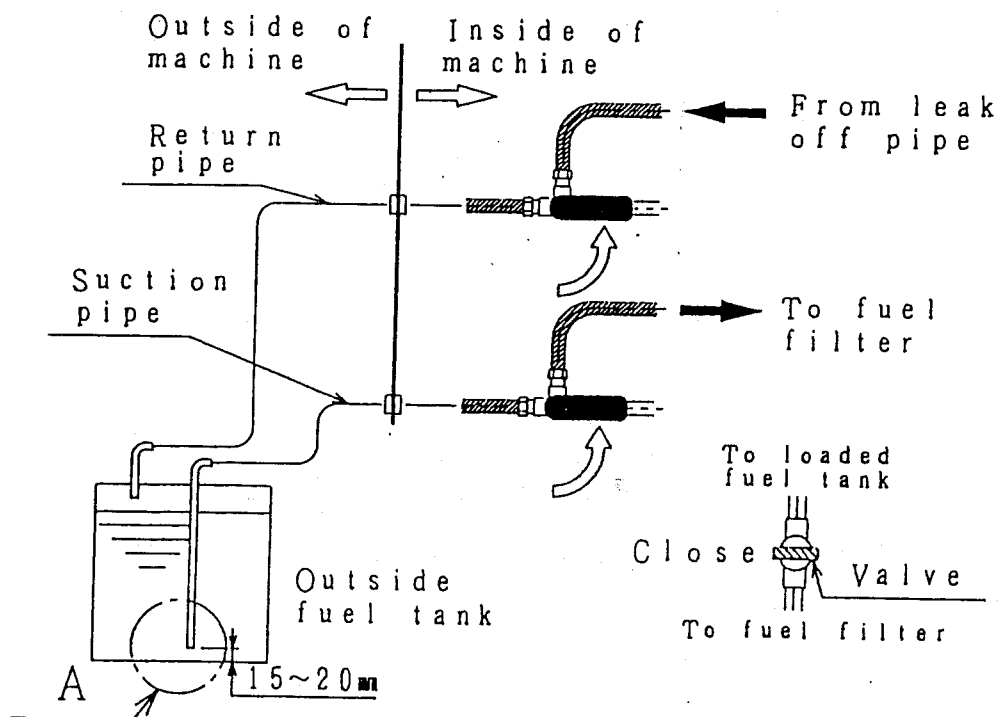

Fig. 4 Use of outside fuel tank
*2 In the case of DCA-25SPI-C, show the Fig.4.